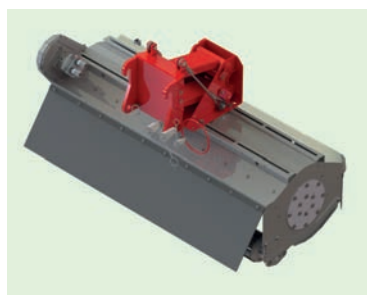

Bild 4)
- Wheel loader mounting bracket with parallel guided suspension (fig. 4)